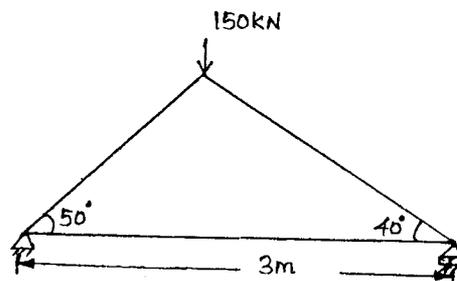

Fig. 1
11. (a) Using the principle of virtual work, determine the vertical and horizontal deflection components of joint C of the truss in Fig. 1 cross-sectional area of each bar $150 \times 10^{-6} \text{ m}^2$ and $E = 200 \times 10^6 \text{ kN/m}^2$.